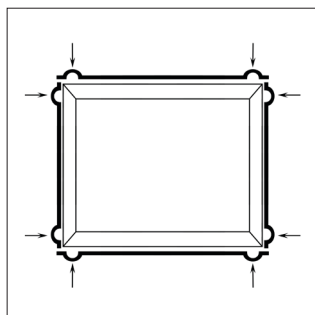
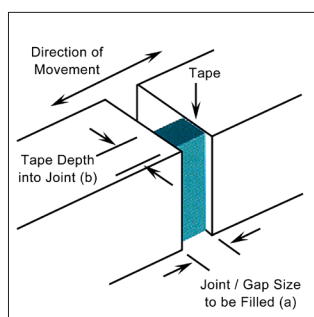

Fig. 1
Fig. 4
- If installing tape into a construction joint with a cross-joint, it may initially be applied either horizontally or vertically (from bottom to top.) However, when applying to a door or window frame the horizontal seals must be applied before the vertical ones (Fig. 1.) Tape must be applied with the adhesive side to the frame when working with fenestration but may be applied in any order when working with construction joints. In both cases do not stretch the tape. When working in damp or cold conditions a wood wedge should be used to hold the tape in position until it is expanded. Ensure the tape is recessed by a minimum of 2 mm. (Fig. 4.)